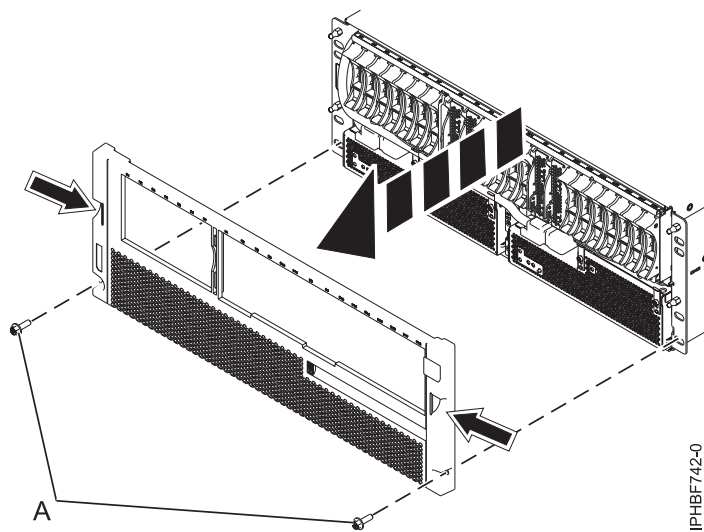

Figure 7. Removing the service information holder and bezel
- 1) Remove the two M5 securing screws (A) as shown in Figure 7.